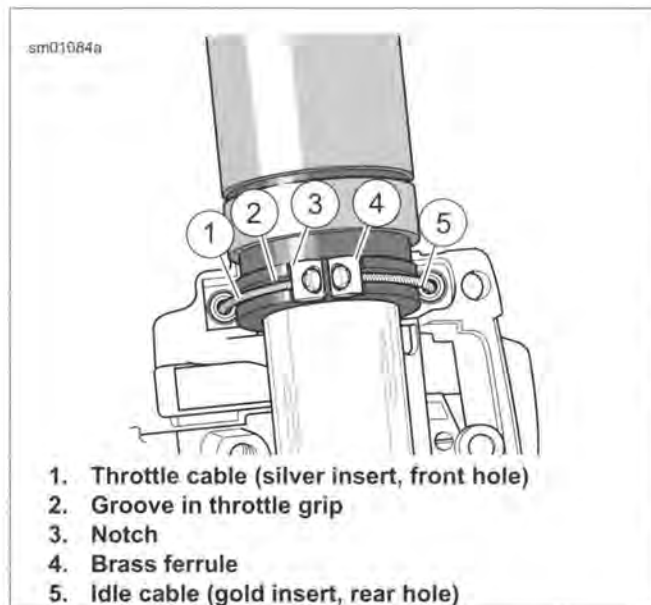

Figure 2-113. Throttle Cable Attachment
7. See Figure 2-113. Apply a drop of oil to the retaining ring holding each cable assembly in the lower housing.
2. See Figure 2-113. Attach the control cable assemblies to the lower housing.
- a. Push the silver insert of the throttle cable (1) housing into the hole in front of the tension adjuster screw.
- b. Push the gold insert of the idle cable (5) housing into the hole at the rear of the tension adjuster screw.